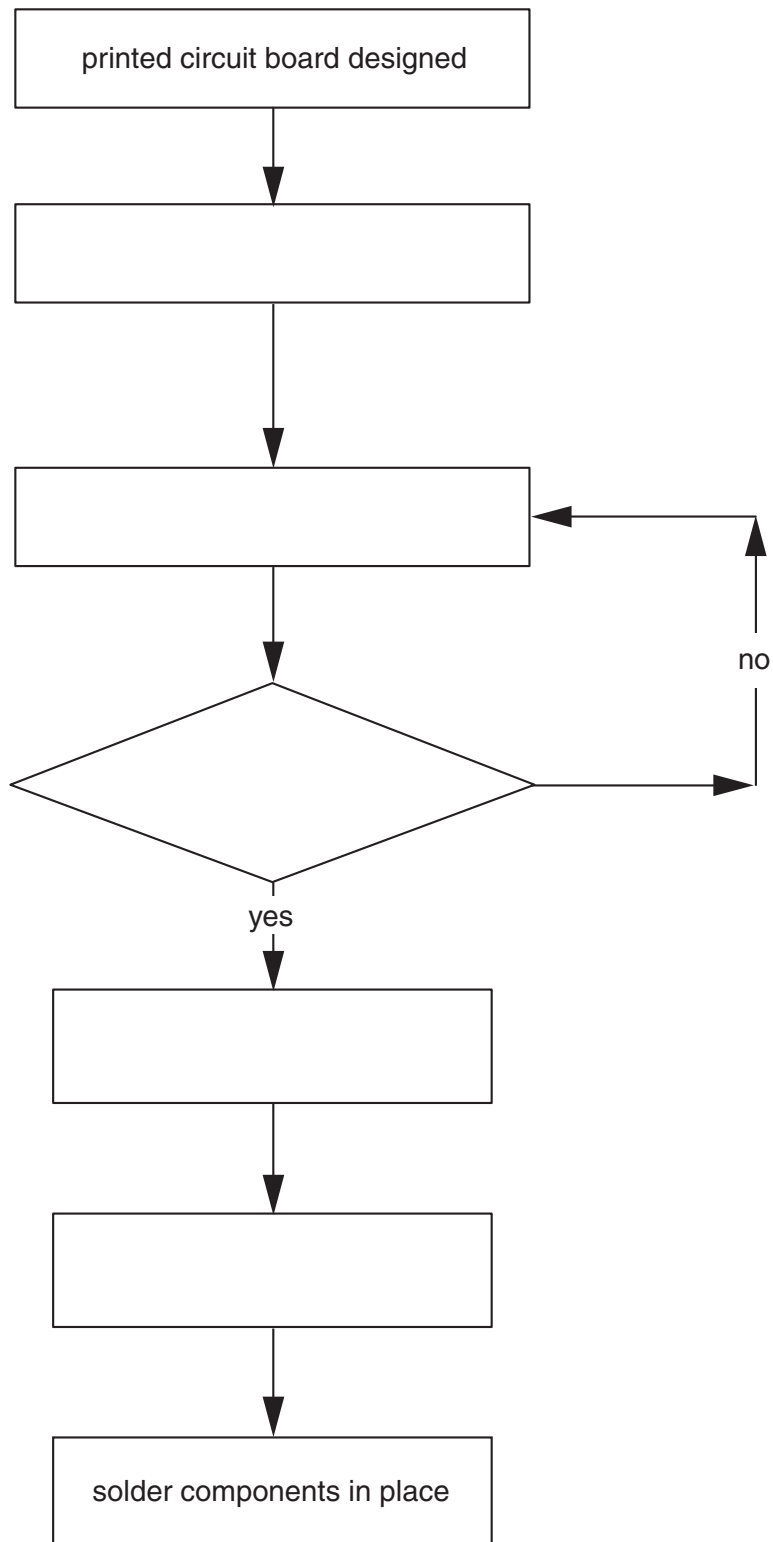

Fig. 3
- (ii) Complete the flow diagram in Fig.3 below to show the main steps in the production of a printed circuit board.